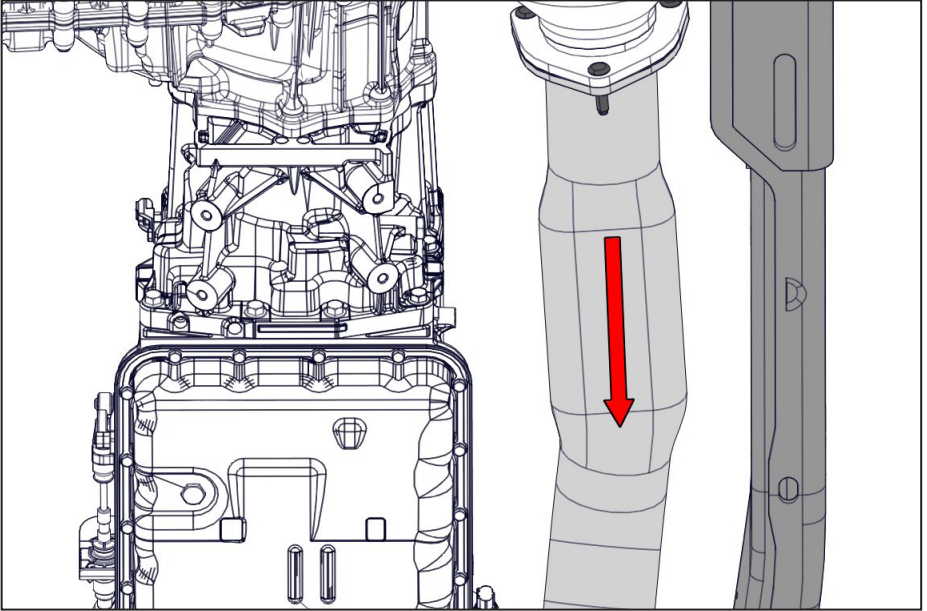
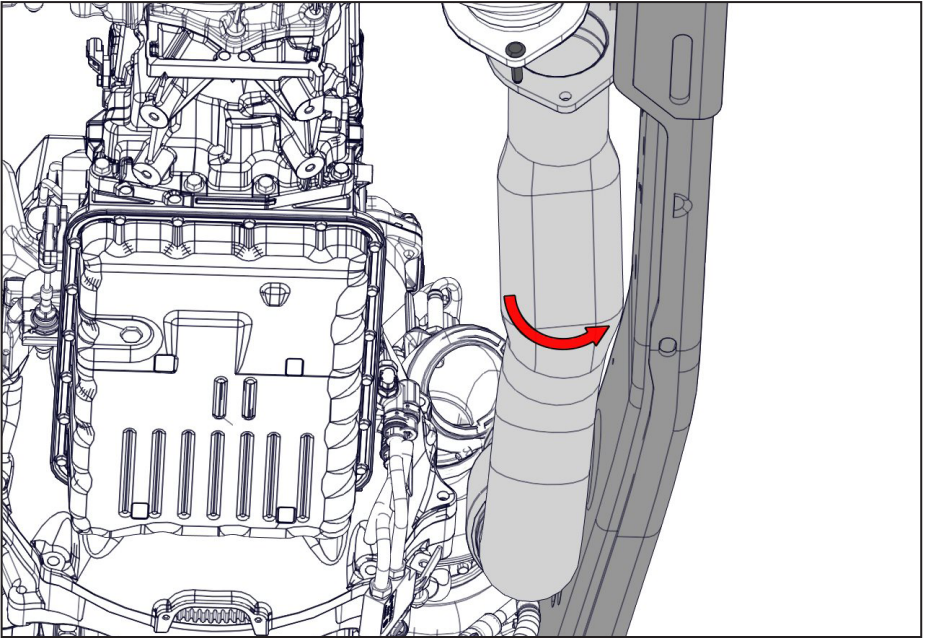

Figure 10 — Shift exhaust forward
Figure 11 — Rotate exhaust
- With the exhaust pipe disconnected, push the pipe toward the front of the vehicle to clear the studs in the flange, rotate it toward the frame, and secure it in place with a ratchet strap (Figure 10 and Figure 11).